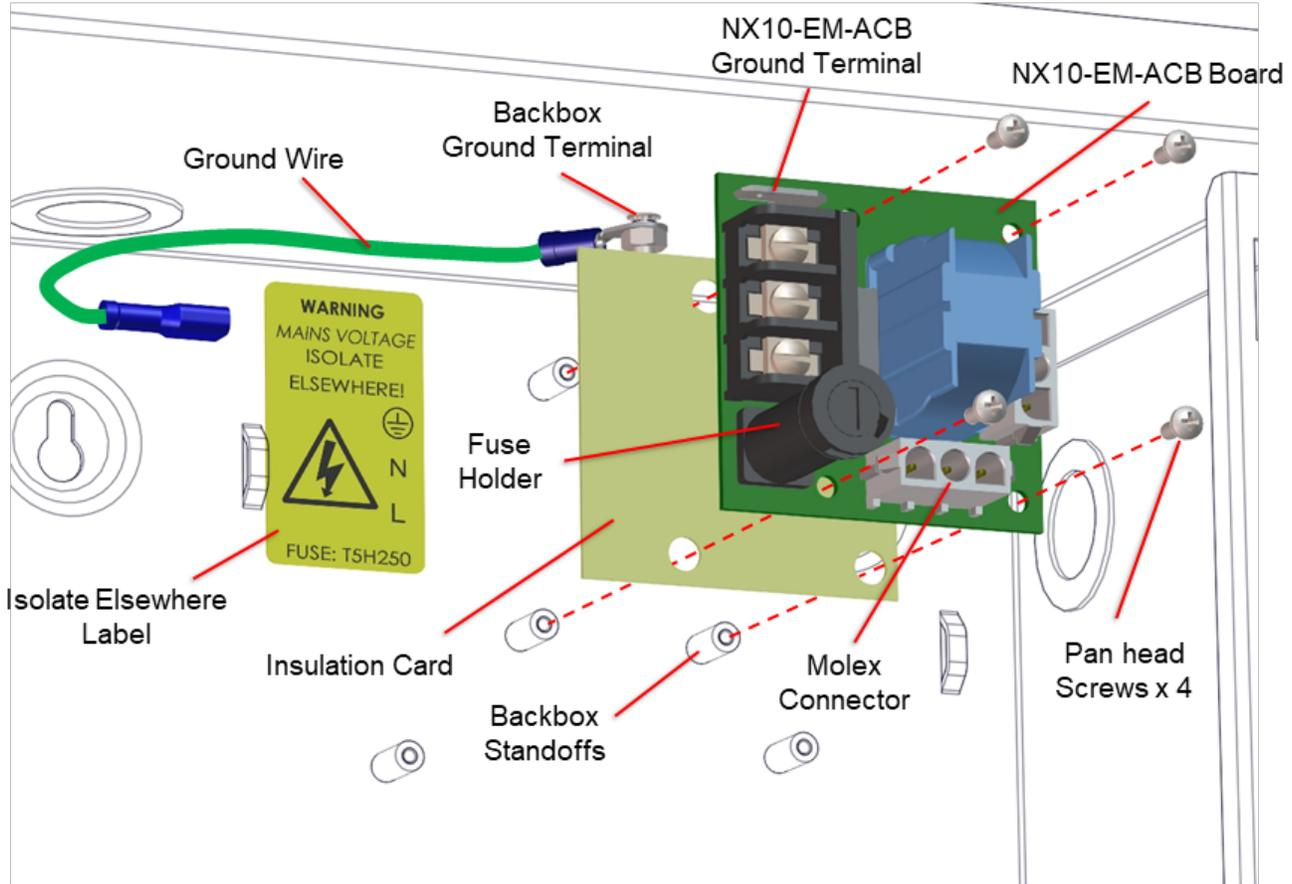

Figure 4 - NX10-ACS-ACB Location
2. Make sure that the Fiberglass Laminated Insulation Card is in position on the backbox standoffs (Figure 4).
4. Install the four (4) panhead mounting screws.
The NX10-ACS-ACB has three (3) AC installation wiring terminals. In addition to the installation wiring requirements, the NX10-ACS-ACB board is prewired to the NX10-FACP base card via an AC Molex connector and connected to an enclosure's backbox stud via the NX10-ACS-ACB preconnected Spade terminal with a 1-way blade connector cable (Figure 4).